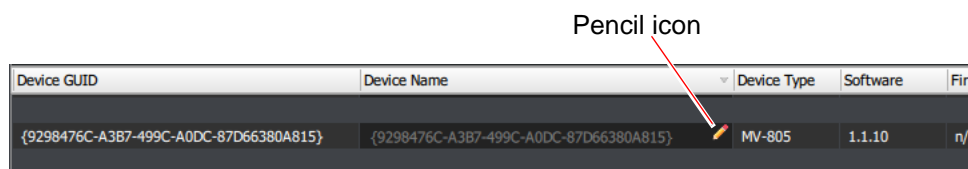

Figure 70 Device Name Cell - Pencil Icon
3. Hover the cursor over the **Device Name** cell. A pencil icon appears in the cell, indicating that this cell is editable. See Figure 70.